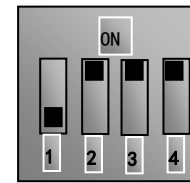

Fig 4-5
(6) There is a red four-digit coding switch SW1 near the control terminal block of above 15 KW inverter, as shown in Figure 4-5. The function of coding switch is to select the input range (0~5V/0~10V/0~20mA) of analog input terminal AI1 and AI2. In actual application, select the analog input channel through F203. AI1 channel default value is 0~10V, AI2 channel default value is 0~20mA. Another switches states and mode of control speed are as table 4-3.